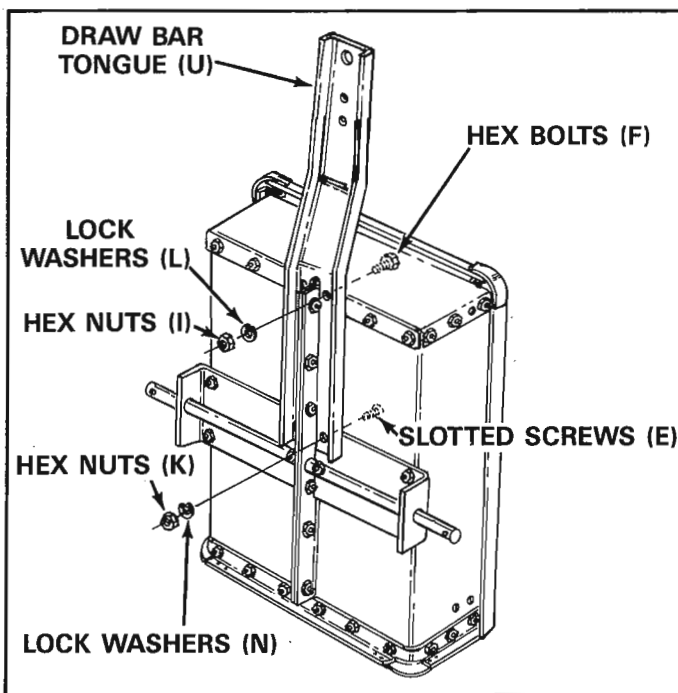

FIGURE 9
16. Assemble the draw bar tongue (U) to the bottom of cart, open side of tongue facing down. Slide slot in tongue over center flanges and secure with two hex head bolt (F), lock washers (L) and hex nuts (I) at front of cart. See figure 9. Secure bottom of tongue at wheel support with two slotted head screws (E), lock washers (N) and hex nuts (K). See figure 9.